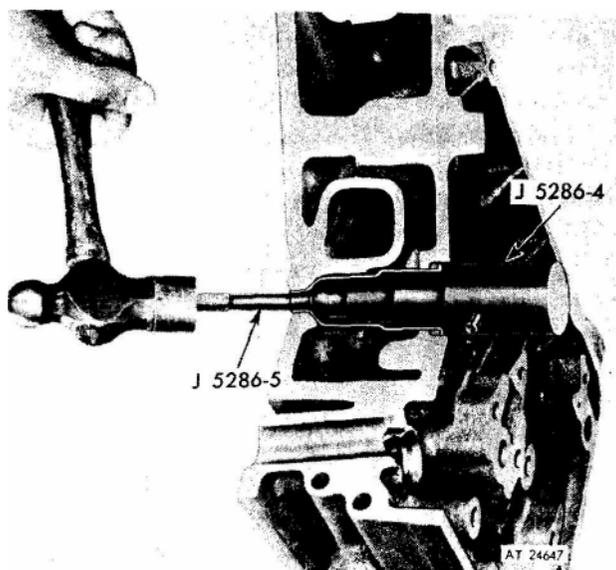

Figure 1. Removing injector tube.
2. Place tool J 5286-4 in the injector tube; then, thread tool J 5286-5 into the end of tool J 5286-4 (fig. 1).